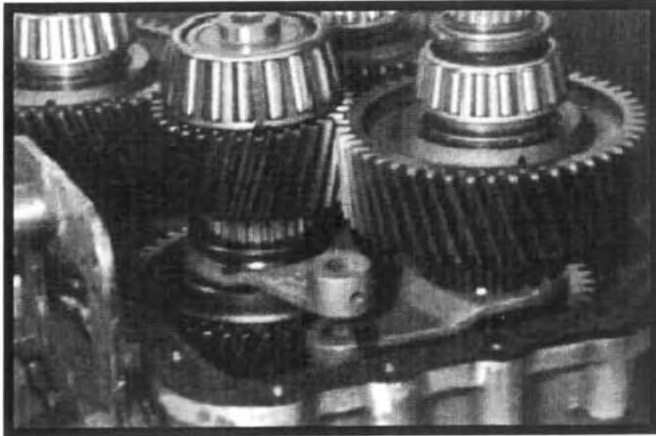

Figure 6.35
11. Position a shift fork to the input shaft clutch collar and the remaining shift fork to the intermediate shaft clutch collar observing the directions as in Figure 6.35. Locate the shift fork bores in line with the shaft bore in the front housing half.